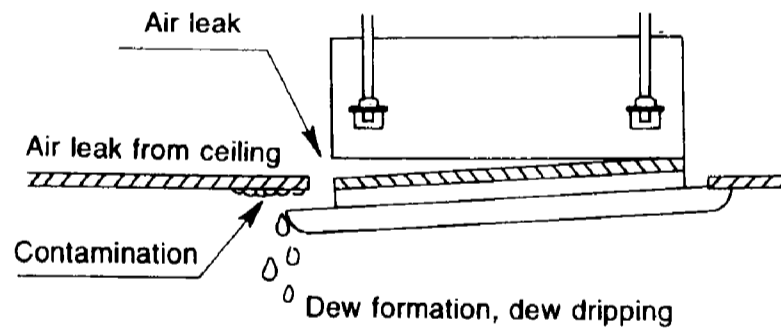

Fig. 7
- Improper screwing of the screws may cause the troubles shown in Fig. 7. Screw properly.